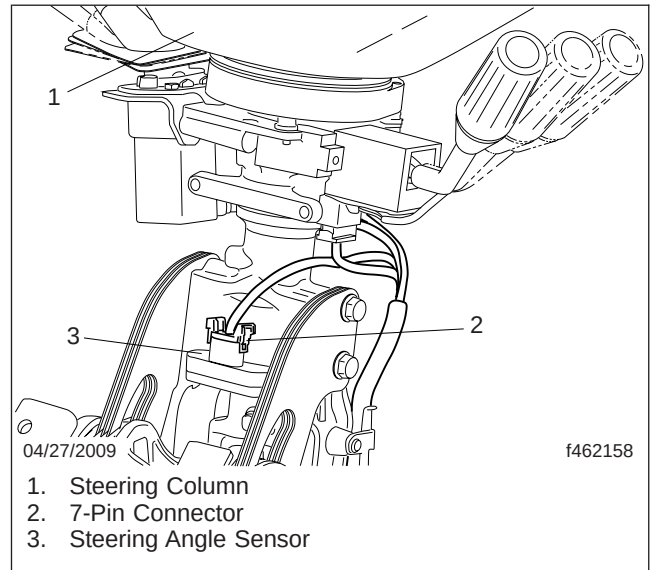

Fig. 2, Steering Column Assembly
4. Remove the 7-pin connector from the steering angle sensor. See Fig. 2.